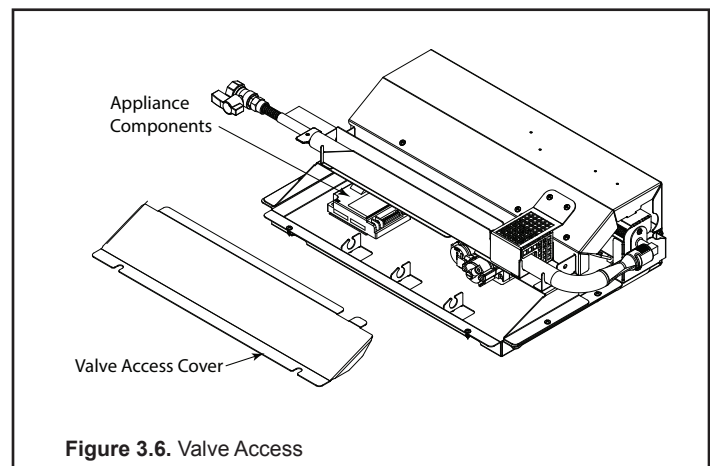

Figure 3.6. Valve Access
- Gas valve and electrical components should now be accessible. See Figure 3.6.